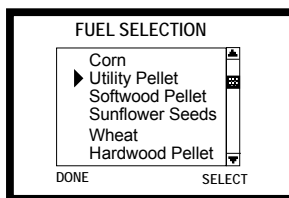

Figure 10.1
- For example, if you have selected wood pellets and you are burning corn, the appliance may not light, it may go out or overfeed. **Figure 10.1.**